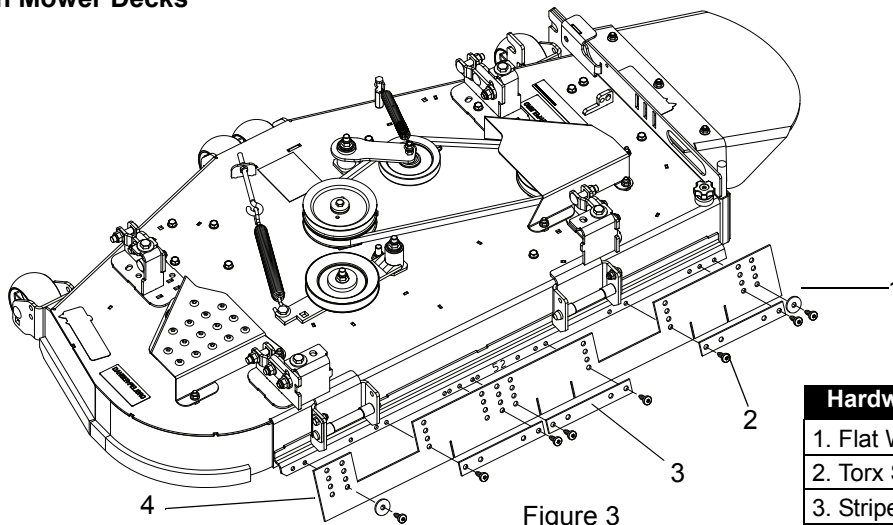

Figure 3
- 52-inch mower decks – figure 3